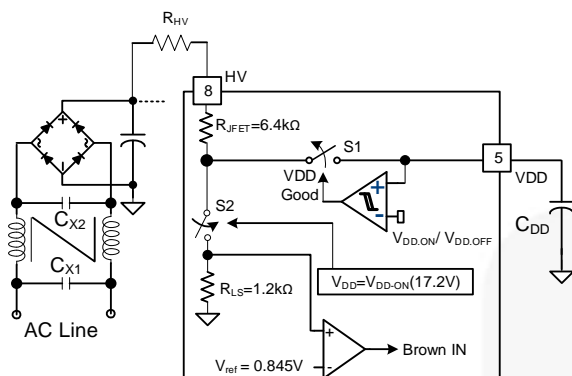
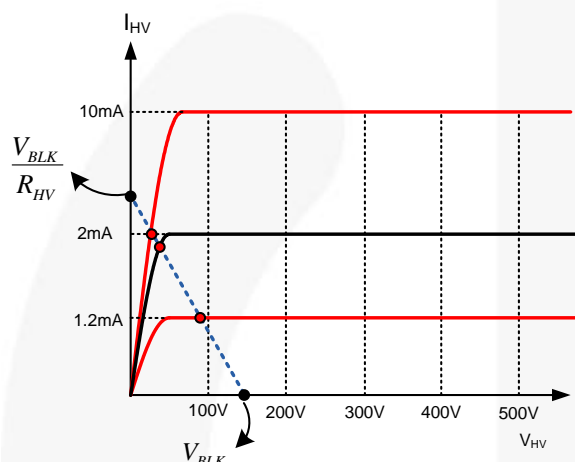

Figure 42. HV Startup Circuit
Figure 43. Characteristics of HV pin
Figure 42 shows the high-voltage (HV) startup circuit. An Internal JFET provides a high voltage current source, whose characteristics are shown in Figure 43. To improve reliability and surge immunity, it is typical to use a R_{HV} resistor between the HV pin and the bulk capacitor voltage. The actual current flowing into the HV pin at a given bulk capacitor voltage and startup resistor value is determined by the intersection point of characteristics I-V line and the load line as shown in Figure 43.
During startup, the internal startup circuit is enabled and the bulk capacitor voltage supplies the current, I_{HV} , to charge the hold-up capacitor, C_{VDD} , through R_{HV} . When the V_{DD} voltage reaches V_{DD-ON} , the sampling circuit shown in Figure 42 is turned on for t_{HV-det} (100 μ s) to sample the bulk capacitor voltage. Voltage across R_{LS} is compared with reference which generates a signal to start switching. If brown-in condition is not detected within this time, switching does not start. Equation (9) can be used to program the brown-in of the system. If line voltage is lower than the programmed brown-in voltage, FAN602F goes in auto-restart mode.